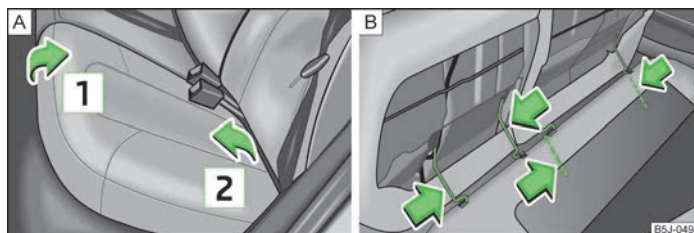

Fig. 42 Folding the seat cushions forwards and removing
- Pull up the seat cushion in the direction of the arrow **1** » Fig. 42 and fold forwards in the direction of the arrow **2**.
- Press the wire clamps in the direction of the arrow » Fig. 42 - **B** and remove the seat cushion from its holder.
- Press the wire clamp in the direction of the arrow » Fig. 42 - **B** and put it into the holder.